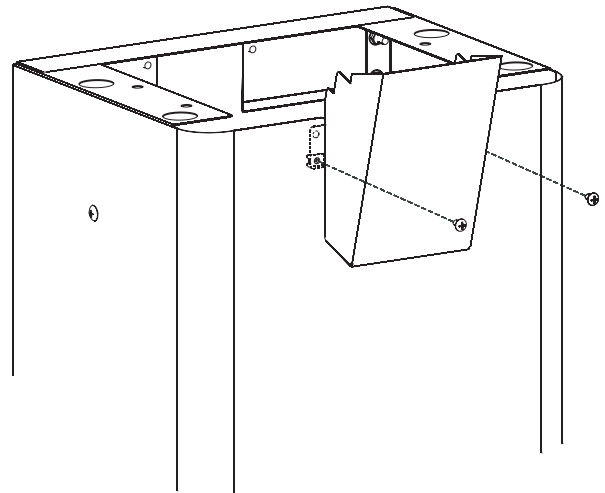

FIGURE 6
Slide the mounting tabs on the control (7) housing behind the opening on the cart. Figure 6.
For "P" series head installation, align the holes in the front of cart with the two upper nuts on the control housing (with the mounting tabs positioned inside cart) and attach with the two 10-24 x 3/8 phillips head screws. Figure 6.
For "T" series head installation, align the holes in the front of cart with the two lower nuts on the control housing (with the mounting tabs positioned inside cart) and attach with the two 10-24 x 3/8 phillips head screws. Figure 6.